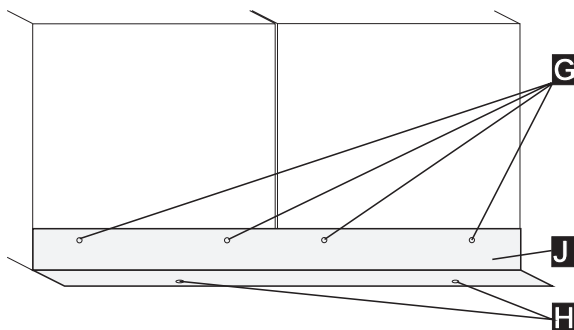

Figure 3-5. Front Bracket Removal
4. \_\_\_\_ Removing the front bracket (see Figure 3-5 on page 3-8):